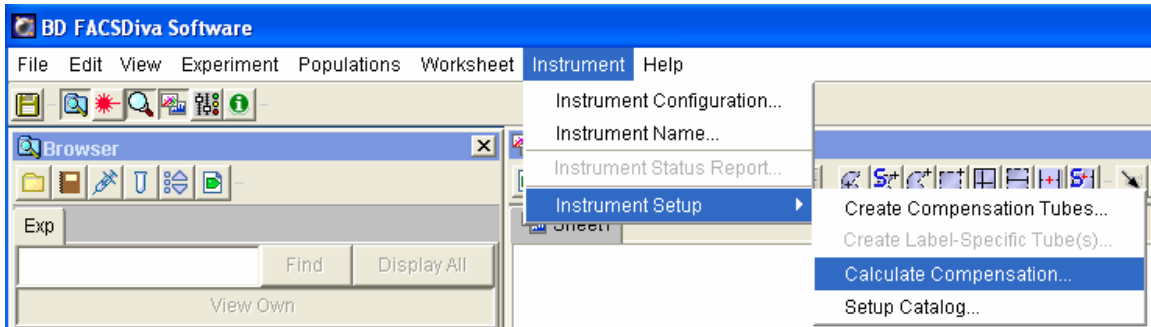

Figure 5
- After all positive populations have been defined, go back to the Instrument Menu, select Instrument Setup, and choose ‘**Calculate Compensation**’. See **Figure 5**.